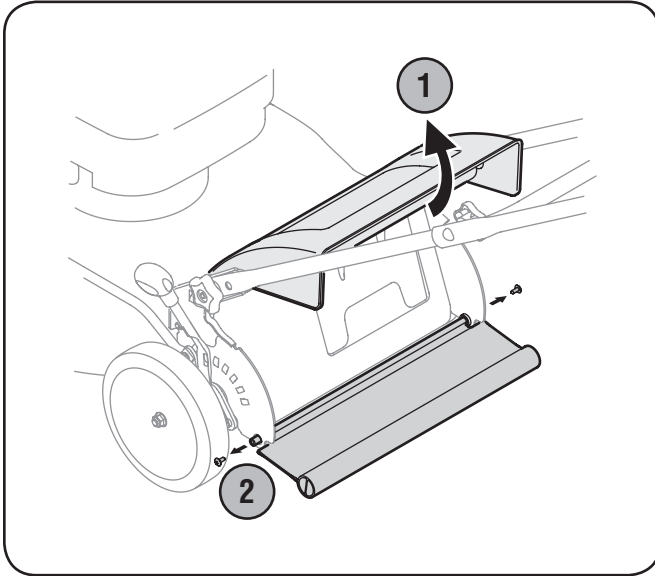

Figure 6-2
1. To remove rear flap, lift rear door, and remove screw on either side to remove from hole. See Fig. 6-2.